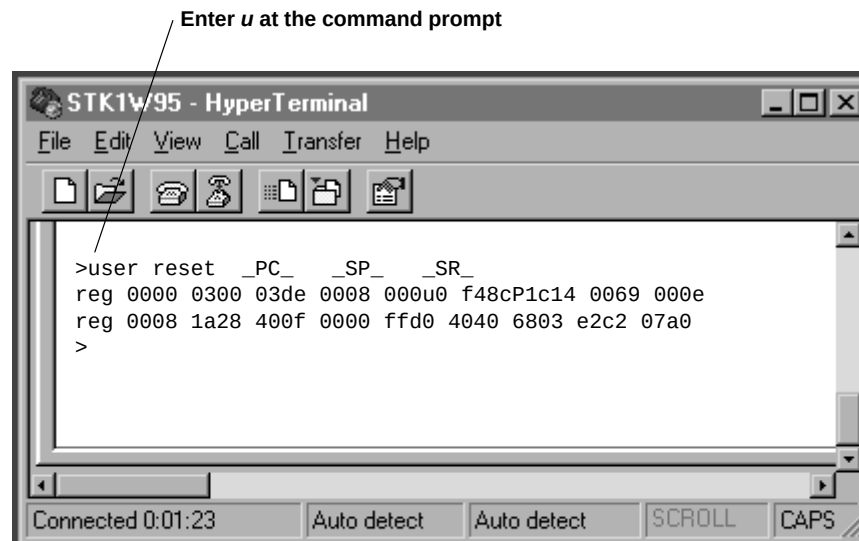

Figure 2–5. User Reset Command
- r[i]** The r <ENTER> command, shown in Figure 2–6, without a specific register number, shows all 16 CPU registers R0 to R15. With this syntax, a modification of the register contents is not possible.